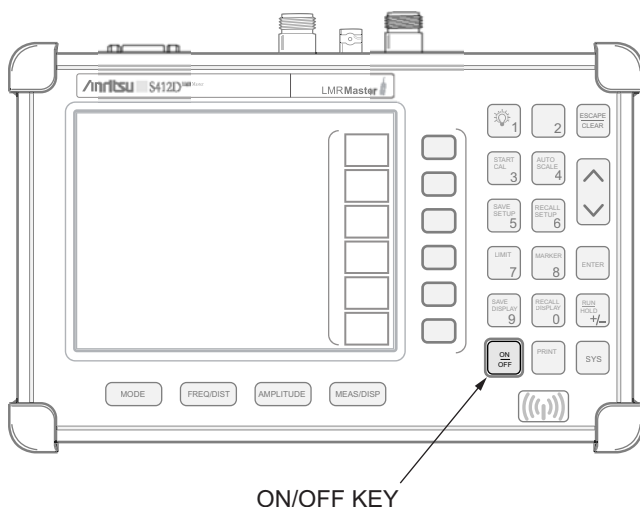

Figure 3-1. LMR Master ON/OFF Key
1. Press the **ON/OFF** front panel key (Figure 3-1).